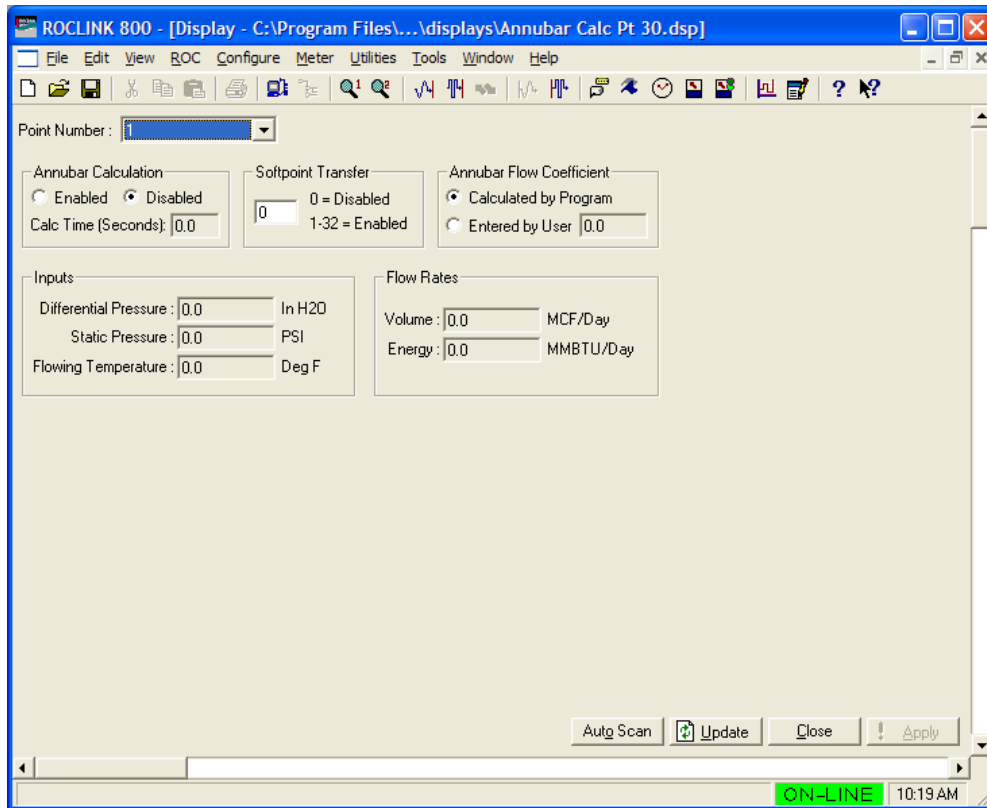

Figure 10. Annubar Calculation Configuration
1. From the ROCLINK 800 menu bar, select **Configure > User Data > Annubar Calc Pt.** The Annubar Calculation configuration screen displays (see Figure 10).
Note: If the screen shown in Figure 10 does not display, you have not correctly customized ROCLINK 800. Refer to Section 2.1.